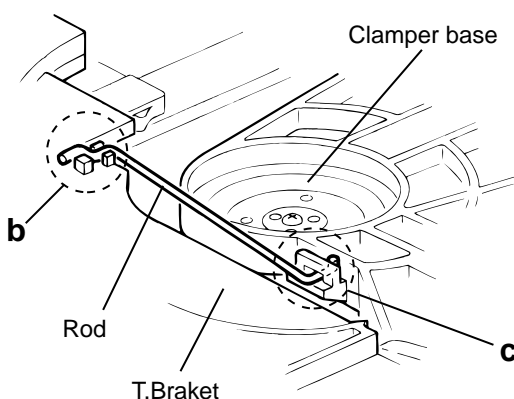

Fig.2
## ■ Removing the CD tray assembly (See Fig.2~4)
5. From the T.bracket section "b" and clamber base section "c", remove both of the edges fixing the rod(See Fig.2 and 3).